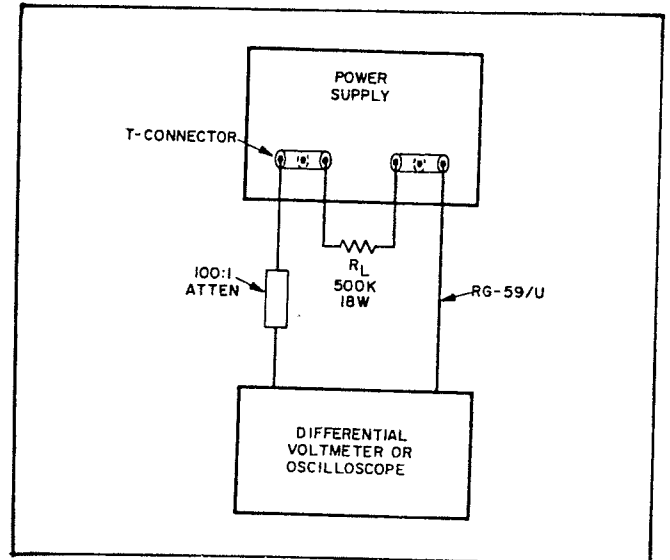

Figure 5-3. Line and Load Regulation, Test Setup
a. Connect the differential voltmeter, load resistor, and the attenuator to the power supply as illustrated in Figure 5-3. Load resistance is 500K ohms, 18 watts.
a. Connect differential voltmeter, load resistor and attenuator to the power supply as illustrated in Figure 5-3.
- b. Connect differential voltmeter, load resistor, and attenuator as illustrated in Figure 5-3.